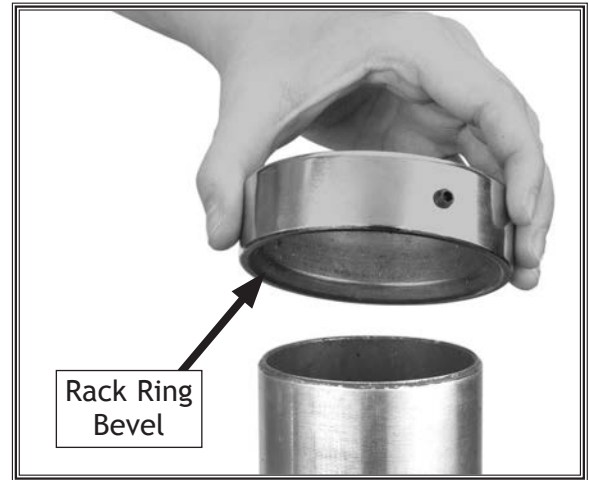

Figure 18. Column ring bevel positioning.
11. Slide the rack ring onto the column with the inside bevel in the down position (see **Figure 18**).